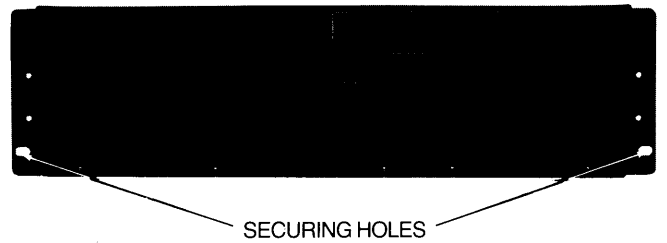

Figure 4-4. Front View of Chassis with Front Panel Removed to Show Securing Holes
4. Secure the chassis in the rack by bolting the front flange to the front rail of the rack, as shown in figure 4-4.